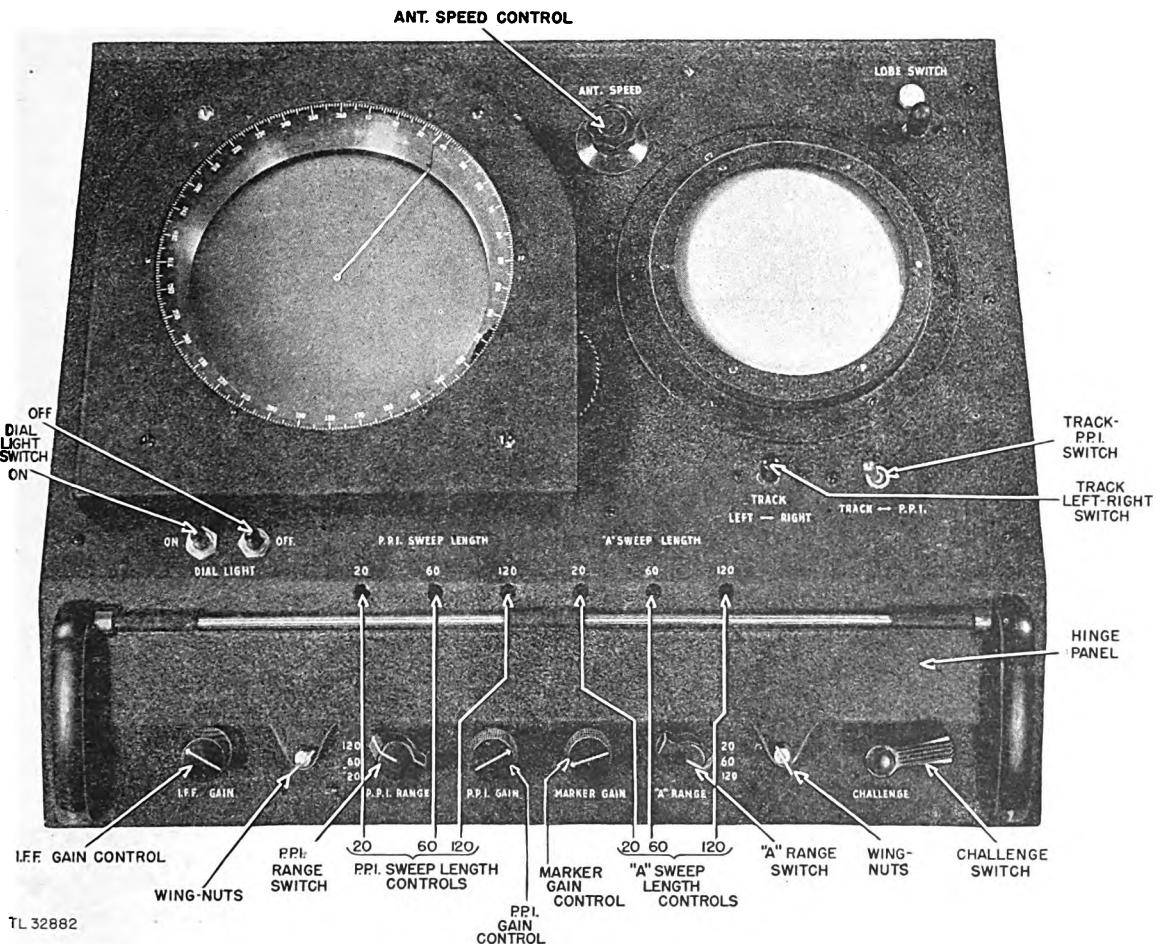
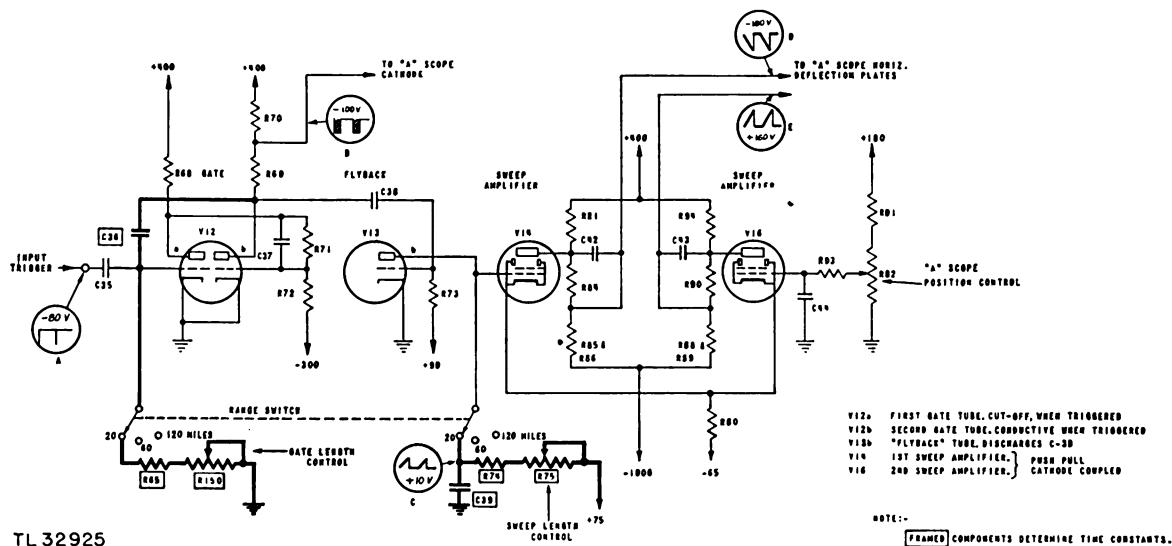

Figure 30. Indicator chassis, panel closed.
Figure 33. "A" scope sweep functional schematic.
(a) *General.* The negative triggering pulse from the pulse transformer is applied through capacitor C35 to the grid of the first section of tube V12 (fig. 33). Tube V12 is a start-stop type of multivibrator which produces the gate (negative square wave pulse) necessary to trigger the sweep generator tube. Normally, during the inactive portion of a cycle of operation, the first section of tube V12 is conductive while the second section is non-conductive. Tube V12b is kept at cut-off by the negative 85 volts impressed on its grid through the voltage divider net-work of resistors R72, R71, and R68. This high bias is necessary to keep the multivibrator from breaking into self-sustained oscillation. When the negative trigger pulse is impressed upon
(resistors in circuit with switch set at 20-mile range). See the heavy-lined portion of the circuit schematic shown in figure 33. With the high resistance in the grid circuit, the duration of the pulse is longer than with low resistance in the circuit. The reason is that the amount of time necessary for the capacitor to discharge is longer with a high resistance than with a low resistance.
(c) *Gate Controls.* To compensate for variations in the values of grid resistors, it is possible to adjust the width of the gate (the output negative square waves) by adjusting the resistance in the grid circuit of the tube V12a (fig. 33). There are three GATE CONT. potentiometers (R150, R151, and R152) supplied for this purpose, one to be used for each range (see indicator schematic, fig. 39). These are screwdriver adjustments located on a bakelite strip in the underside of the indicator chassis (fig. 98). These adjustments are usually preset, and normally need not be disturbed.
(2) SWEEP GENERATOR STAGE (fig. 33).
(b) *Sweep Length Controls* (fig. 33). The length of the sweep on the individual ranges can be adjusted by varying the SWEEP LENGTH controls, potentiometers R75, R77, or R79. See figure 39. Varying the resistance in the capacitor charging path changes the rate of charge, thereby changing the length of the sweep. The controls are screwdriver adjustments located on the front panel of the indicator (fig. 30). One control is supplied for each range.
(3) SWEEP AMPLIFIER STAGE (fig. 33).
(b) *"A" Position Control.* The grid of tube V16 is supplied with a positive d-c voltage from the horizontal centering control (fig. 33). This control, "A" POSITION potentiometer R92, varies the bias on the tube, thus changing the plate current through the tube. This in turn changes the average potential prevailing at the plate. In this manner the average potential of one deflecting plate is being changed, while the other is left constant. This shifts the sweep trace across the screen of the "A" scope without affecting the length of the sweep.
(c) *Sweep Length Controls.* The length of the sweep on the individual ranges can be adjusted by varying the SWEEP LENGTH controls, potentiometers R129, R131 or R134. See indicator schematic, figure 39. Changing the resistance in the capacitor charging path changes the rate of charge, thereby changing the length of the sweep. The controls are screwdriver adjustments located on the front panel of the indicator (fig. 30). One control is supplied for each range.